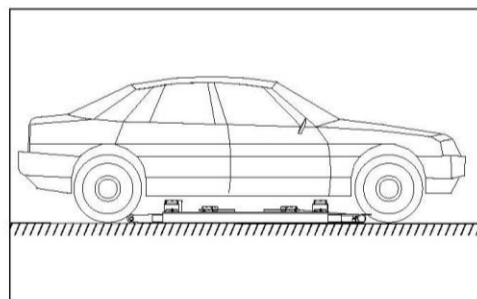

Fig. 4
- Make sure the vehicle is positioned correctly. (Fig. 4)